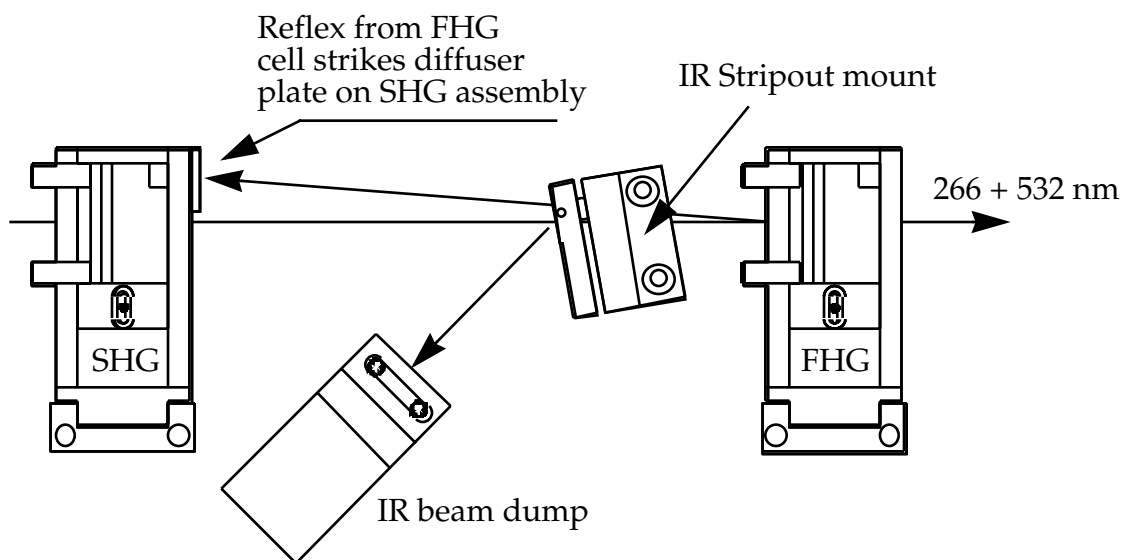

Figure 5-9. Beam Path through SHG and FHG Optics
3. Adjust the horizontal and vertical tilt controls of the FHG cell holder, items 3 and 4 in Figure 5-4, so that aperture surface faces the incoming IR beam at normal incidence. Thereafter tilt the cell slightly around its vertical axis so that the reflection from the cell window, when the crystal is inserted, will strike the white diffuser, mounted on the side of the SHG assembly, see Figure 5-9. This is the cell position in which the crystal will be used and therefore the alignment should be carried out.